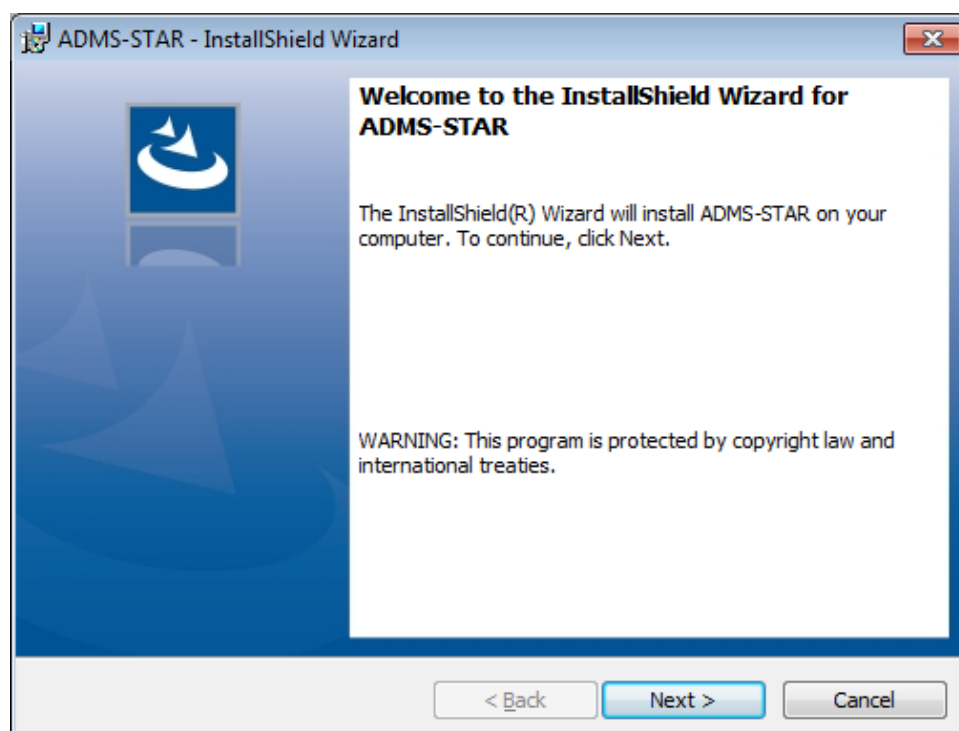

Figure 2.1 - The ADMS-STAR Installation **Welcome** screen
- Table and figure references are shown in **bold**, e.g. see **Table 3.2**, **Figure 2.1**.
This will open the **Welcome** screen shown below in **Figure 2.1**.